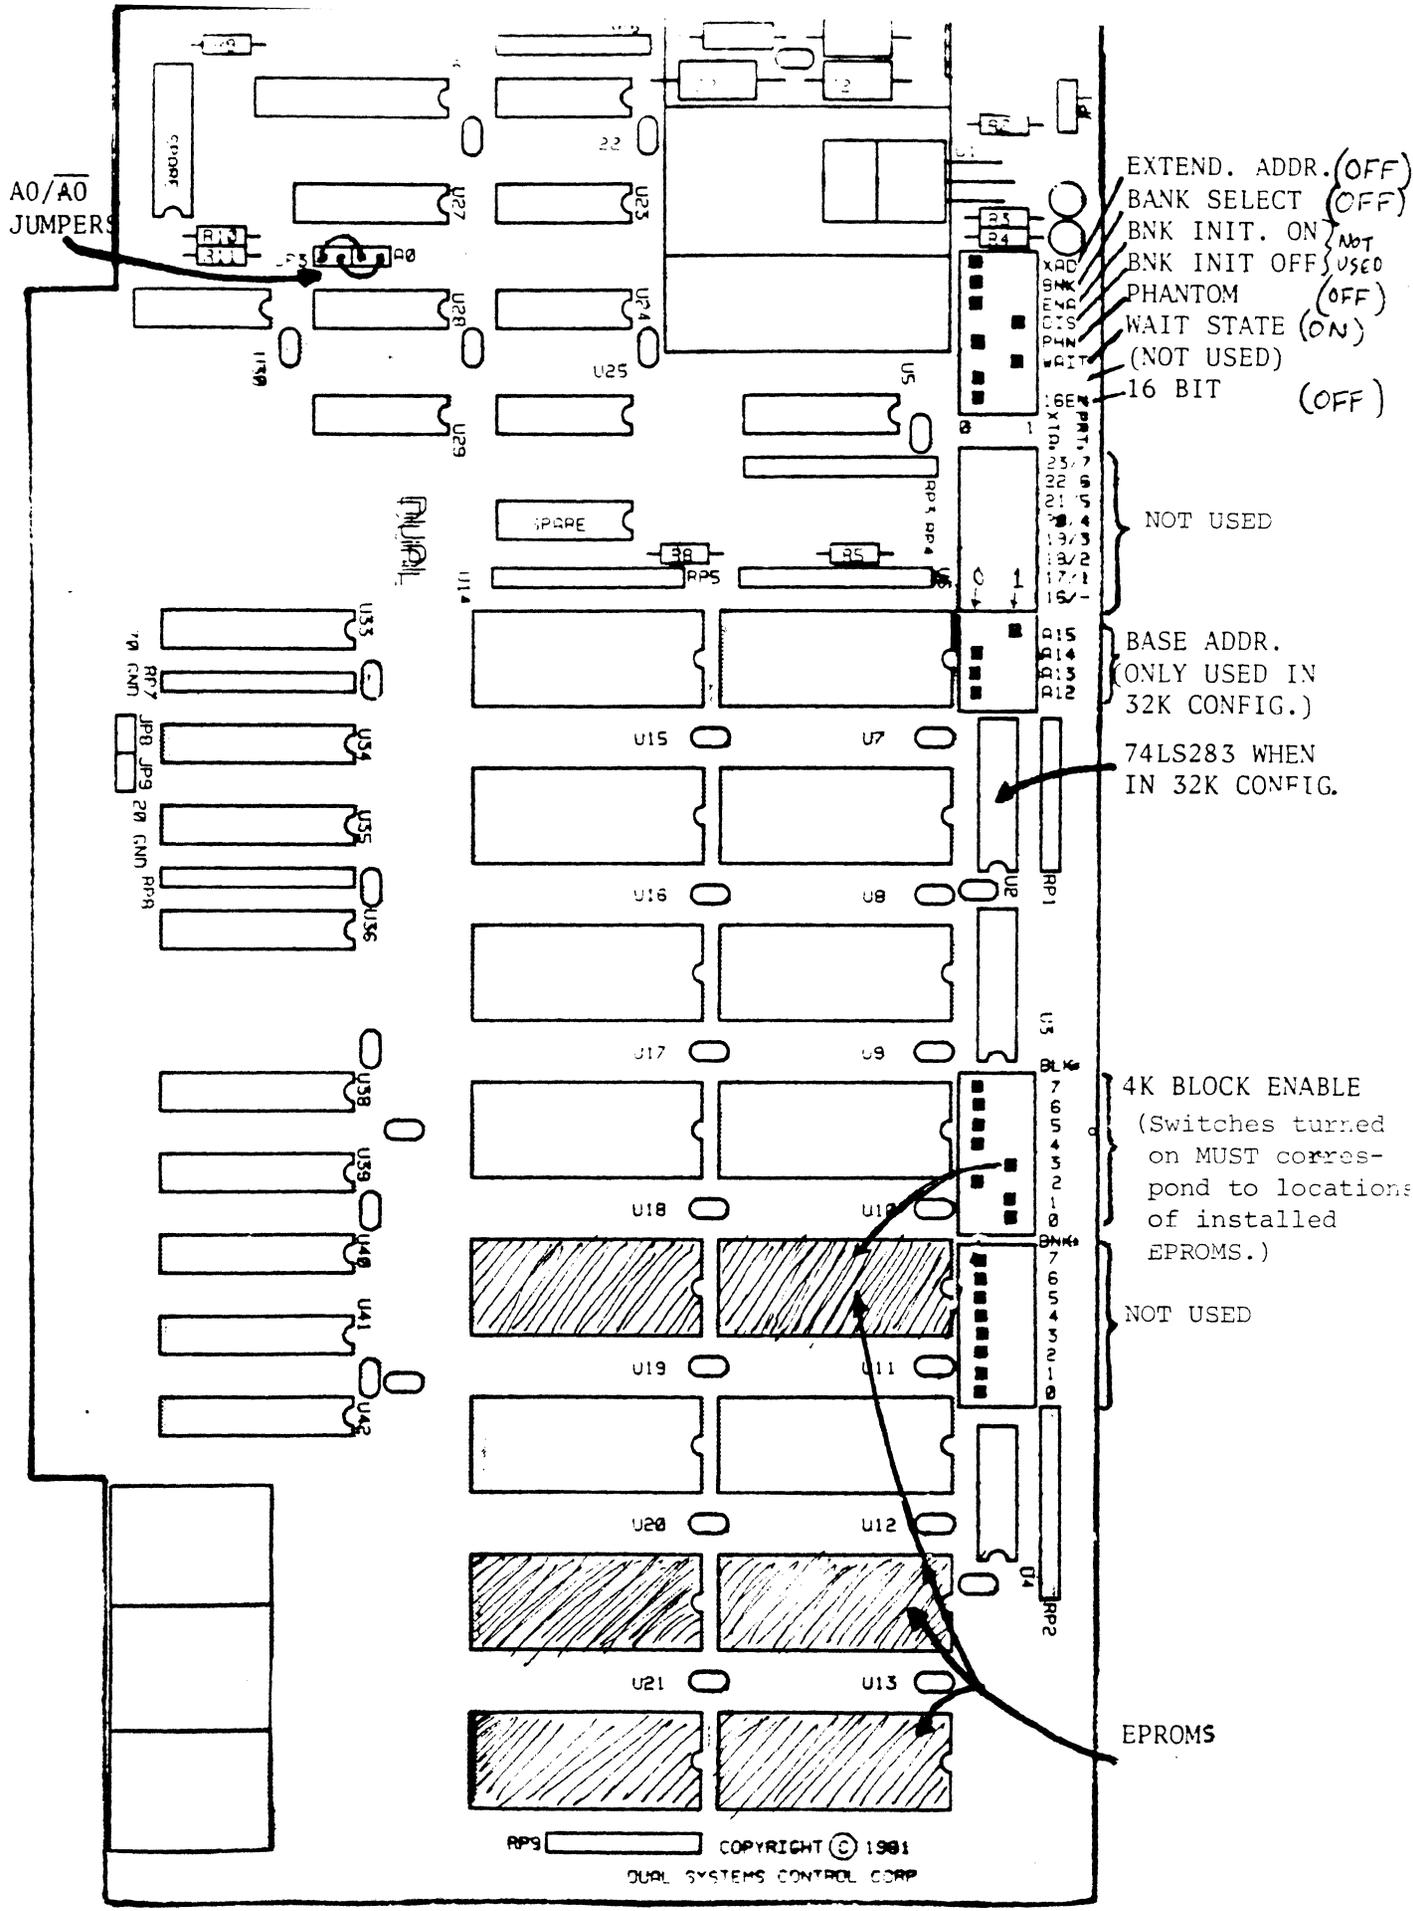

Figure 4. Example of simplest configuration of EPROM-32/64K
1. A "NO OPTIONS" mode, in which the EPROM-32/64K is used in its factory configured 32K mode, in 8-BIT computers, without the need for multiple memory banks or extended addressing. THIS SIMPLE CONFIGURATION IS ALL THAT IS REQUIRED IN MOST APPLICATIONS. SEE FIGURE 4.
An example of the switch settings for a system that is set up for simple 16 bit addressing is shown in figure 4. In this case, the user is configuring an EPROM board as follows: